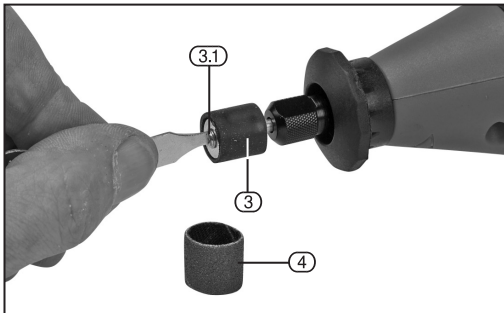

FIG. 5
6.7 FITTING THE SANDING DRUMS – FIG.5